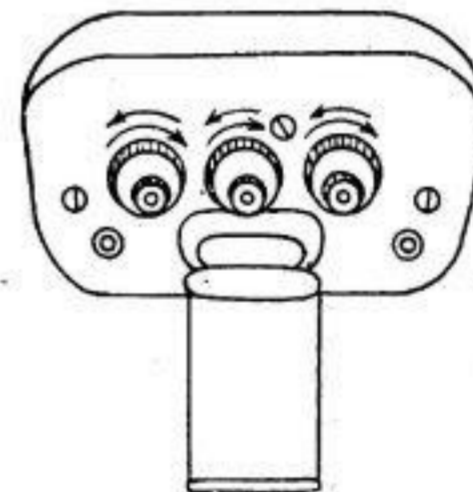

Fig. 6
2. The Row Counter registers single units on the right, tens in the centre and hundreds on the left. It counts automatically up to 999. (Fig. 6)
3. The numbers on the Row Counter may be adjusted or returned to zero by turning the adjusting screws on the back of the Counter. (Fig. 6)